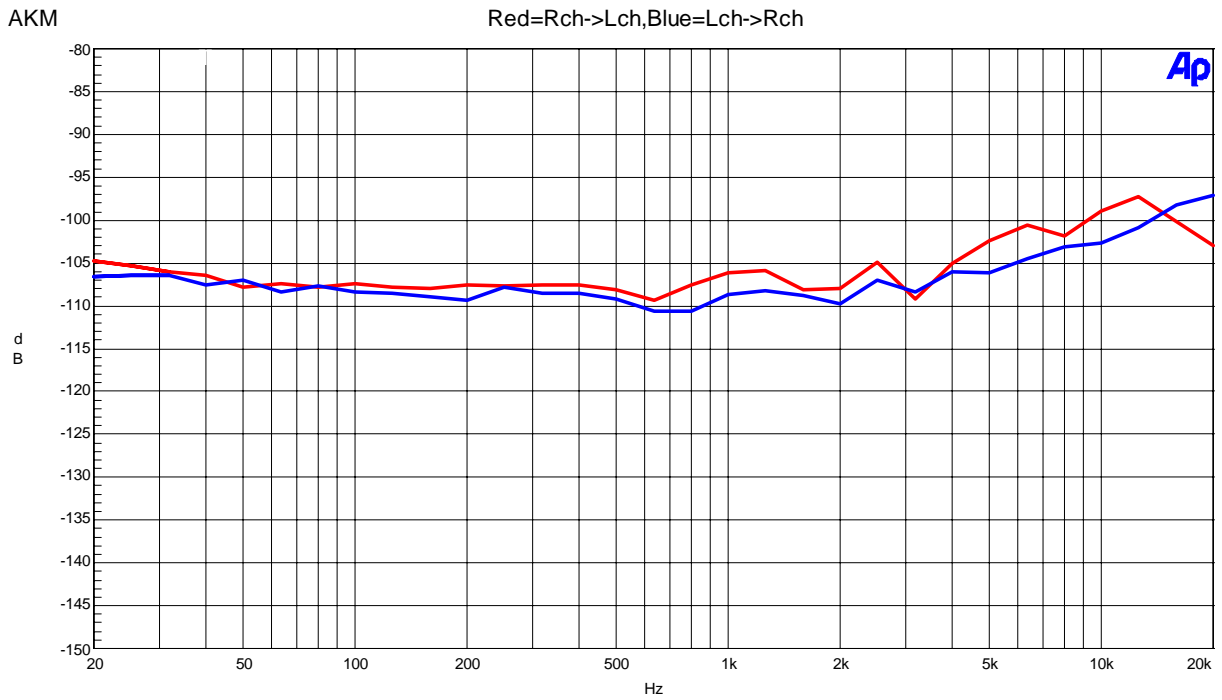

Figure 15. Crosstalk (Upper@ 1k = Rch, Lower@ 1k = Lch)
- Figure 15. FFT (Input Frequency =1kHz, Input Level =0dBFS)